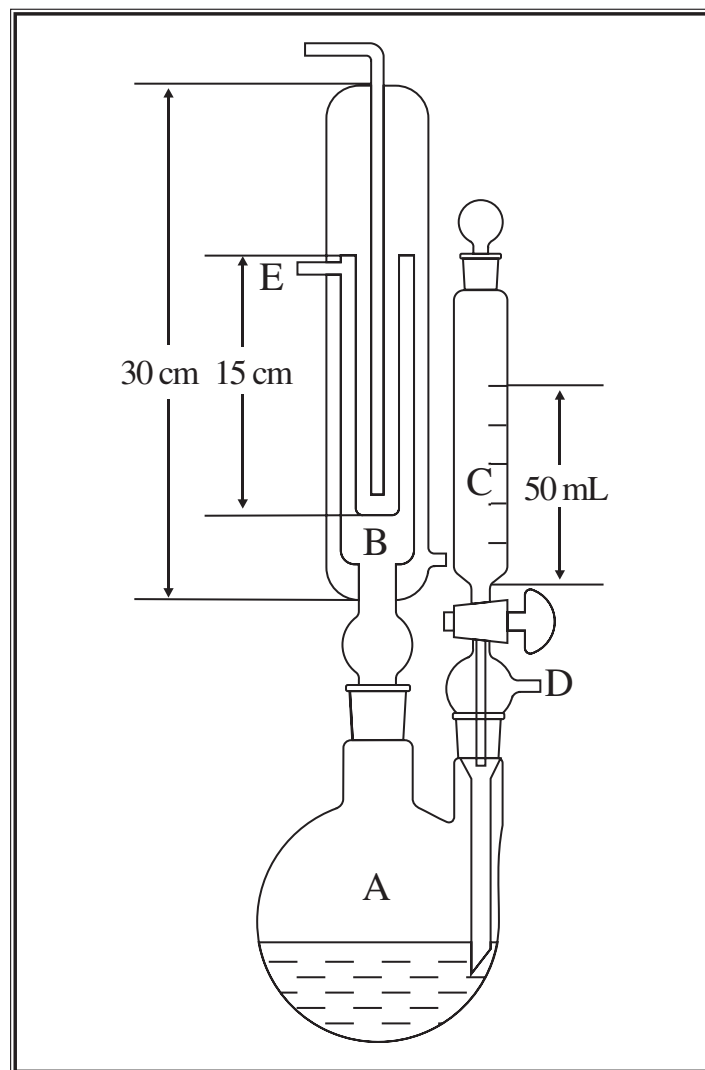

Figure 1 Apparatus for the determination of sulphur dioxide residues
(5) Apparatus
The apparatus (Fig. 1) consists of a 1000-mL round-bottomed flask with two standard tapered joints (diameter 29 mm and 24 mm) (A), a reflux condenser (B), a graduated 50-mL separating funnel (C), inlet for nitrogen gas (D) and outlet for sulphur dioxide gas (E). The apparatus should be cleaned before use and all the joint of apparatus should be tightly sealed during use.